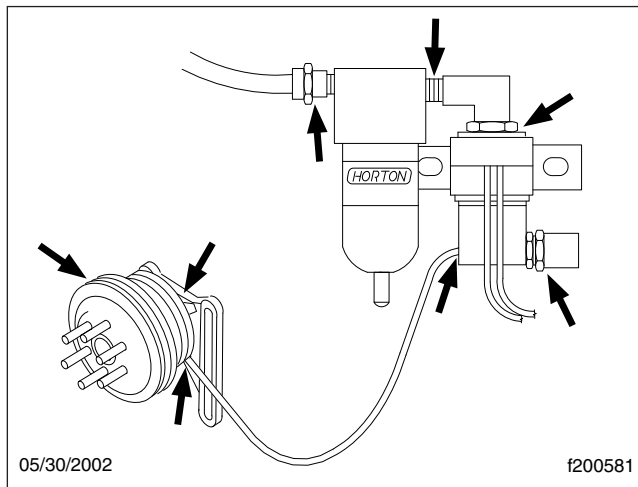

Fig. 8, Checking for Air Leaks (Horton DriveMaster)
8. With the air system charged to 120 psi (827 kPa), check the fan clutch for audible air leaks, using a suitable listening device. Check at the solenoid valve, the air filter assembly, and the air hoses and fittings. See **Fig. 8**. Using a wet finger or a soapy water solution, check for a leak in the same areas.